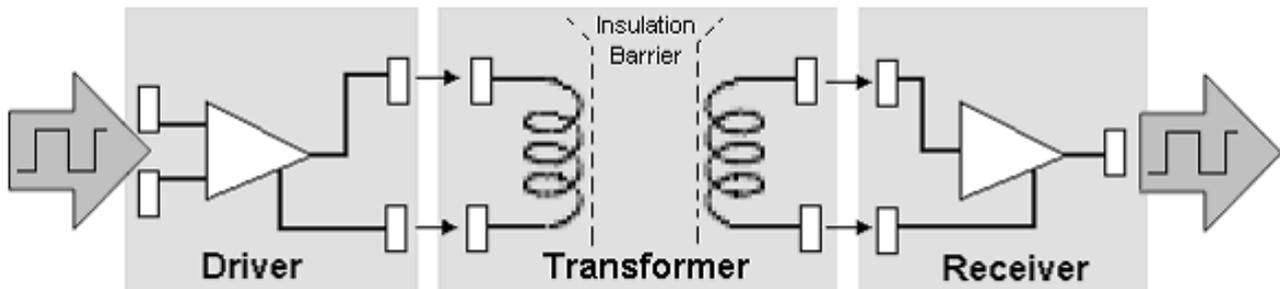

Figure 11. Induction Coupling-Based iCoupler Technology from Analog Devices
iCoupler technology is based on small, chip-scale transformers. An *iCoupler* has three main parts – a transmitter, transformers, and a receiver. The transmitter circuit uses edge trigger encoding and converts rising and falling edges on the digital lines to 1 ns pulses. These pulses are transmitted across the isolation barrier using the transformer and decoded on the other side by the receiver circuitry (see Figure 11). The small size of the transformers, about three-tenths of a millimeter, makes them practically impervious to external magnetic noise. *iCouplers* can also lower measurement hardware cost by integrating up to four isolated channels per integrated circuit (IC) and, compared to optocouplers, they